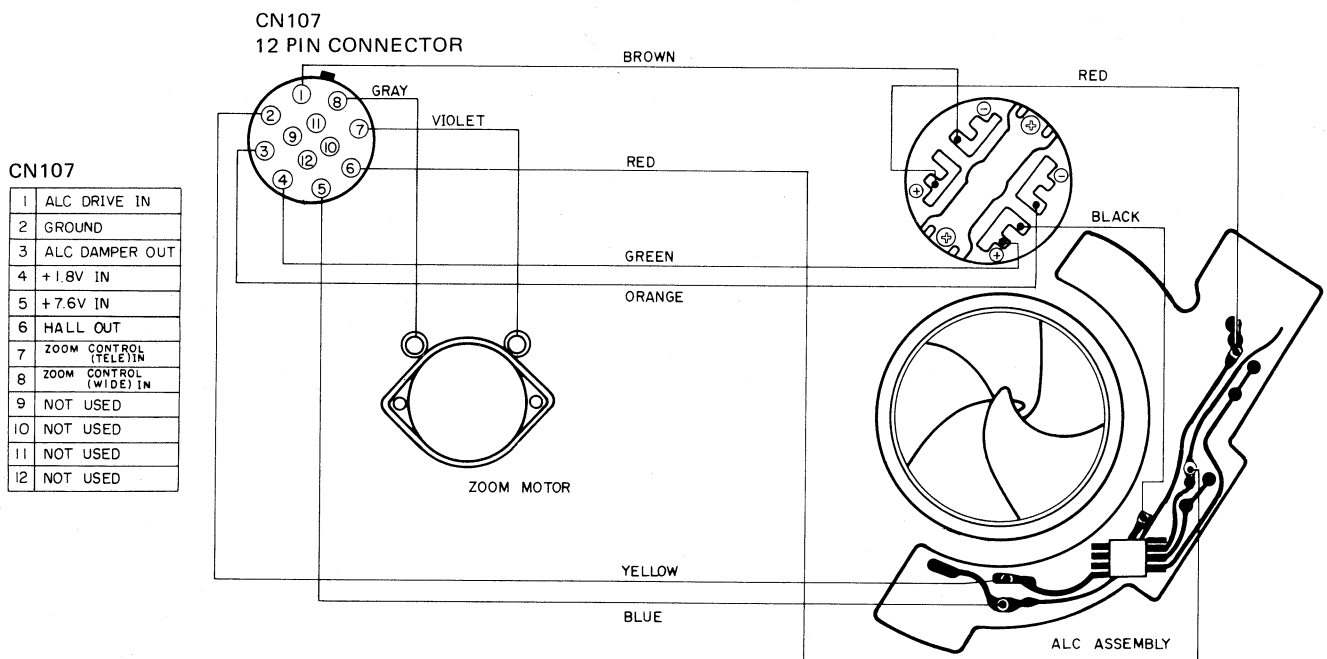

Fig. 3-5-8
2. When replacing the lens assembly, refer to Fig. 3-5-8 for wiring.